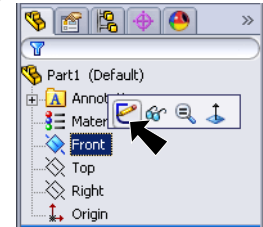

Fig. 1
Step 2. Click **Front**  (plane) in the Feature Manager and click **Sketch**  from the Content toolbar, **Fig. 1**.